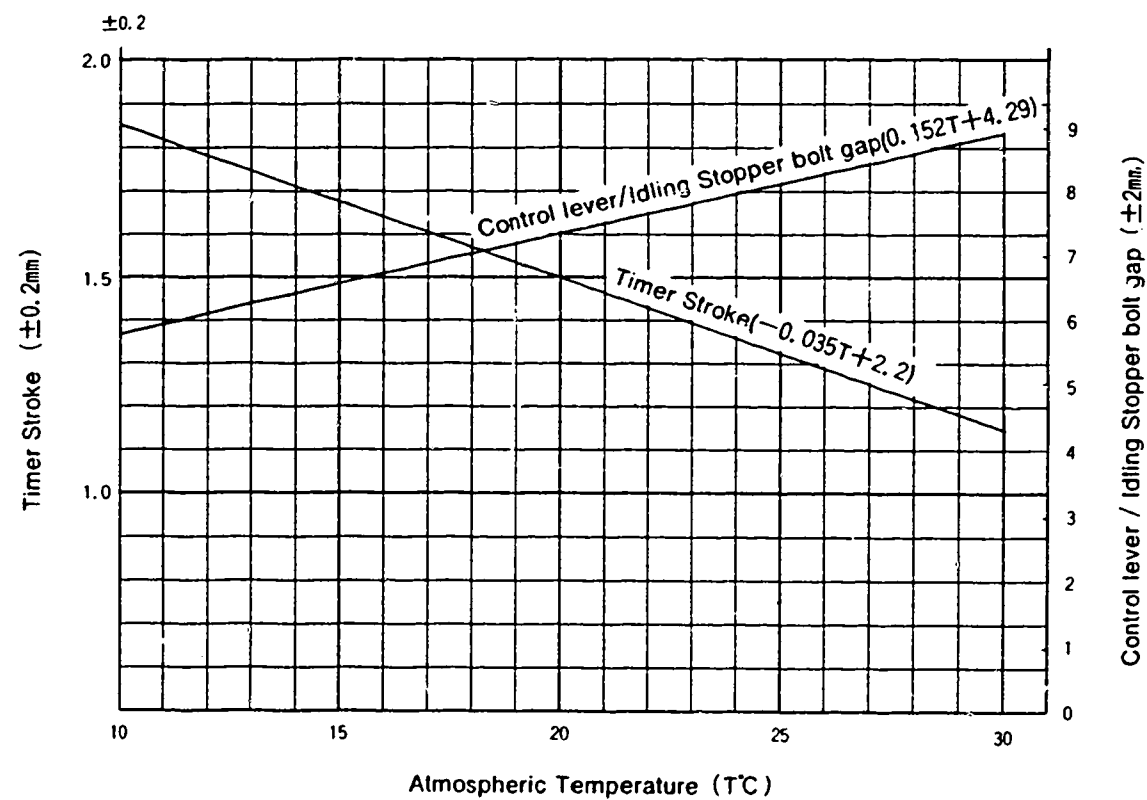

Fig 2
- ① Using the graph (Fig 2), determine the Timer stroke according to the atmospheric temperature at the time of adjustment.
- ② Adjust using the Timer Stroke adjusting bolt so that the Timer Stroke corresponds to the value determined in note ① above.
- ① Insert a block gauge of $5.3 \pm 0.05\text{mm}$ thickness in the gap between the control lever and the idling stopper bolt.
- ② From Fig 2 determine the dimension of the gap between the idling lever pin and the control lever according to the atmospheric temperature at the timer of adjustment.
- ③ Adjust using the fast idle adjusting screw so that the gap corresponds to the value determined in note 2) ② above.